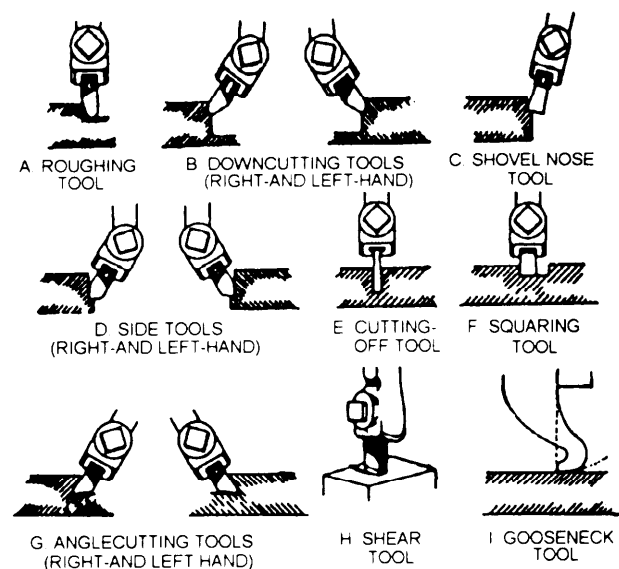

Figure 5-24.—Standard shaper and planer tools.
The shape and use of various standard shaper and planer cutting tools are illustrated in figure 5-24 and described in the following paragraphs:
- **Roughing tool:** This tool (fig. 5-24, view A) is very efficient for general use and is designed to take heavy cuts in cast iron or steel. You will generally grind it for left-hand operation as illustrated. For special applications, you can reverse the angles for right-hand cuts. Do not give this tool any back rake although the side rake may be as much as 20° for soft metals. Do finishing operations on small flat pieces with the roughing tool if a fine feed is used.
- **Downcutting tool:** You may grind and set this tool (fig. 5-24, view B) for either right- or left-hand operation and use it to make vertical cuts on edges, sides, and ends. It is substantially the same as the roughing tool, with the exception of its position in the toolholder.
- **Shovel-nose tool:** You may use this tool (fig. 5-24, view C) for downcutting in either a right- or left-hand direction. It requires a small amount of back rake and the cutting edge should be the widest part of the tool. Make the corners slightly rounded to give them longer life.
- **Side tool:** This tool (fig. 5-24, view D) comes in both right- and left-hand versions required to finish vertical cuts. You also may use these tools to cut or finish small horizontal shoulders to avoid changing tools after you make a vertical cut.
- **Cutting-off tool:** You should give this tool (fig. 5-24, view E) relief on both sides to allow free cutting action as the depth of cut is increased.
- **Squaring tool:** This tool (fig. 5-24, view F) is similar to a cutting-off tool and you can make it in any desired width. Use the squaring tool mostly to finish the bottoms and sides of shoulder cuts, keyways, and grooves.
- **Angle cutting tool:** This tool (fig. 5-24, view G) is adapted for finishing operations and is generally used following a roughing operation made with the downcutting tool. You may grind this tool for right- or left-hand operation.
- **Shear tool:** This tool (fig. 5-24, view H) is used to produce a high finish on steel and should be operated with a fine feed. Grind the cutting edge to form a radius of 3 to 4 inches, twisted to a 20° to 30° angle, and give it a back rake in the form of a small radius.
- **Gooseneck tool:** This tool (fig. 5-24, view I) is used to finish cast iron. You must forge it so the cutting edge is behind the backside of the tool shank. This feature allows the tool to spring away from the work slightly, reducing the tendency to gouge or chatter. Round off the cutting edge at the corners and give it a small amount of back rake.